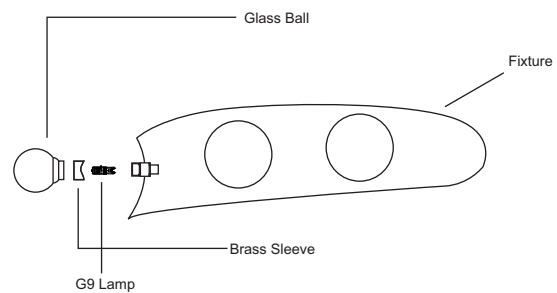

FIGURE-4
- Insert the glass ball shade on each lamp installed. See Figure-4.